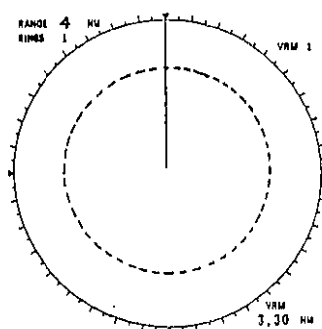

Fig.1-11
2. While observing the VRM indicator at the lower right-hand side of the screen, press  /  until the VRM stops at 3.30nm. (The order which you set the inner and outer range limits is interchangeable.) See Fig.1-11.